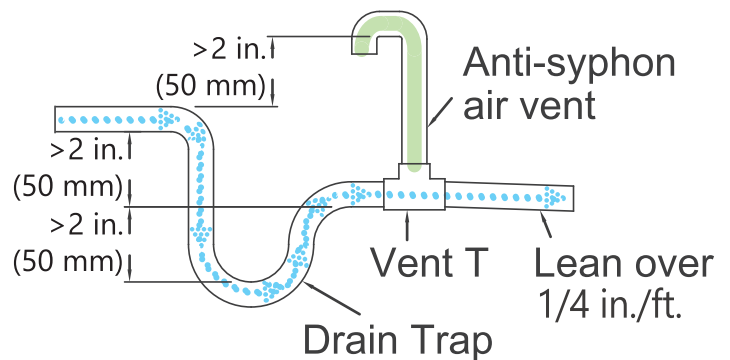

Fig. 2-2: Air Vent Arrangement
- Fig. 2-2 shows how to trap or plug all drains during right-hand discharge.